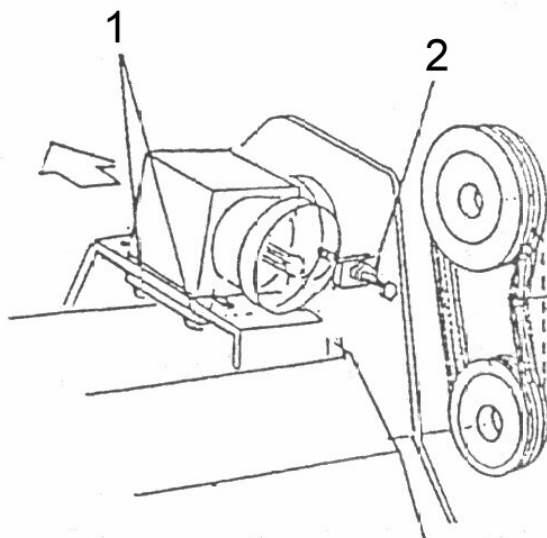

Fig 17
Remove the belt guard; slacken the screws (1) (see Fig 17 below),